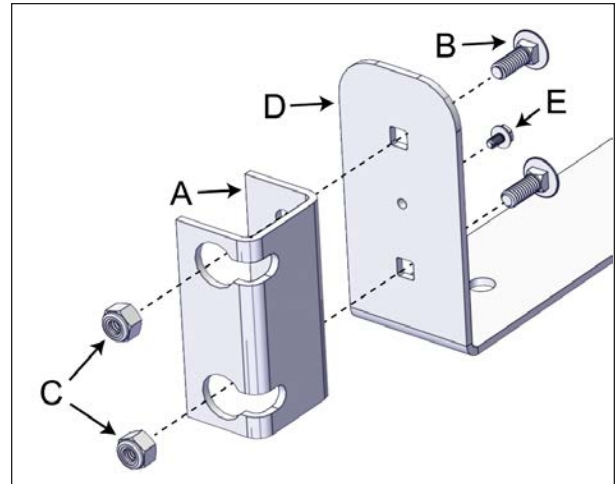

FIGURE 39: SPA ENTRANCE U-FRAME LINK AND METAL COUPLER
12. Install one unpainted metal coupler on each end of the spa entrance U-frame link, see Figure 39.
13. Align one coupler with the holes on each end of the spa entrance U-frame link. Fasten with the provided 1/4" x 3/4" carriage bolts and 1/4" nylon-insert lock nuts using the 7/16" (11 mm) socket wrench and spanner. There is one metal coupler per side, see Figure 39.
14. Insert an 8-32 x 3/8" Hex slotted thread-cutting screw in the center hole on each end of the spa entrance U-frame link, see Figure 39.